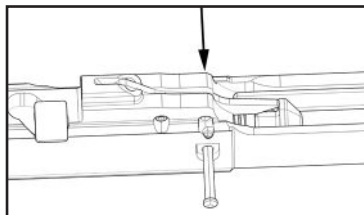

Fig. 38 – Remove the Firing Pin and Firing Pin Spring
- c. Insert the small tip of the disassembly tool into the right hand side of the firing pin retaining pin and drift the firing pin retaining pin from right to left until the firing pin retaining pin reaches its limit of lateral travel (Fig. 38)